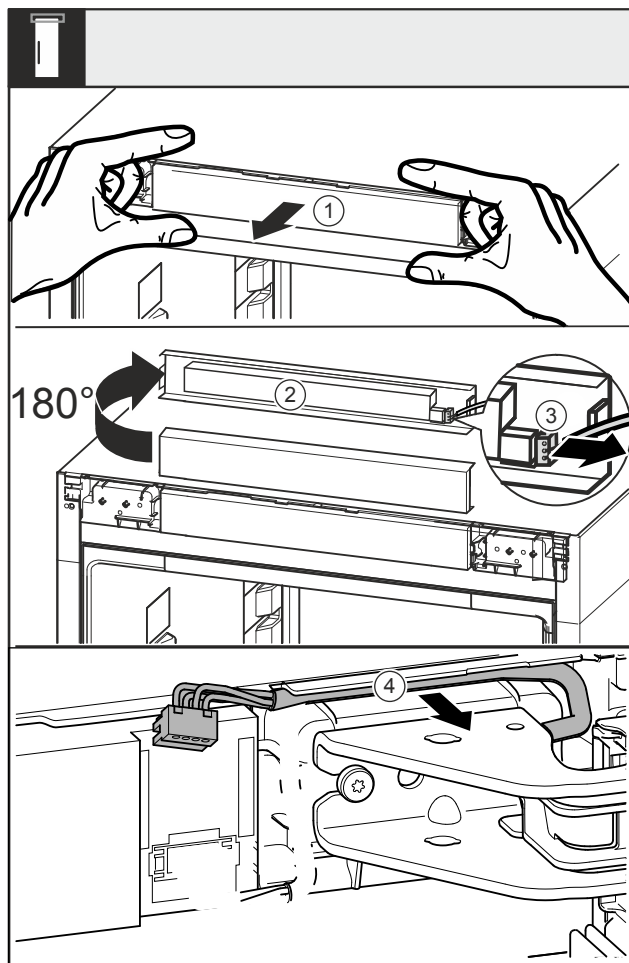

Fig. 6
- Loosen the trim Fig. 6 (1) towards the front.
- Turn the trim Fig. 6 (2) upwards by 180°.
- Push the locking tab on the plug Fig. 6 (3) backwards and remove the plug carefully.
- Release the cable over the swap bearing block Fig. 6 (4) from the guide.